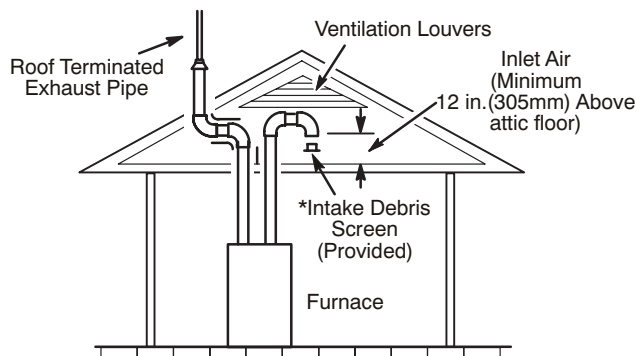
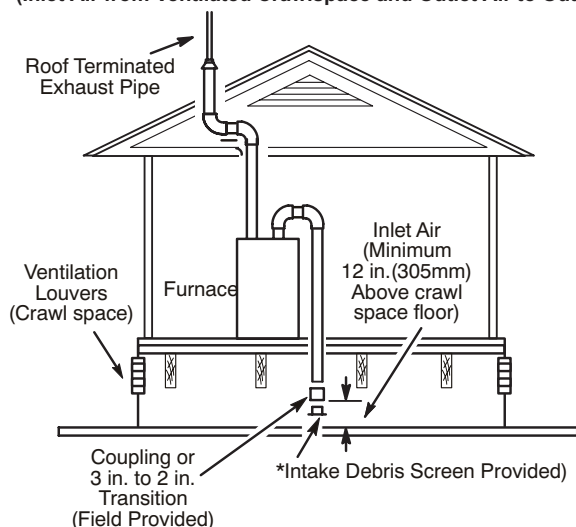

Figure 29
Figure 30
- 2 - If intake air is drawn from a ventilated attic (Figure 29) or ventilated crawlspace (Figure 30) the exhaust vent length must not exceed those listed in TABLE 6. If 3" diameter pipe is used, reduce to 2" diameter pipe at the termination point to accommodate the debris screen.